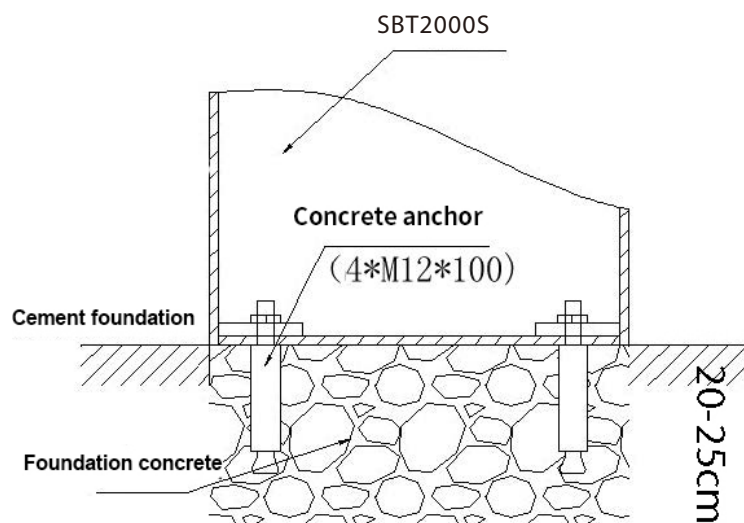

Figure 4-2
3. Drill the holes with  $\Phi 14$  and embed M12 anchor screws or expansion screws. As shown on the Figure 4-2.